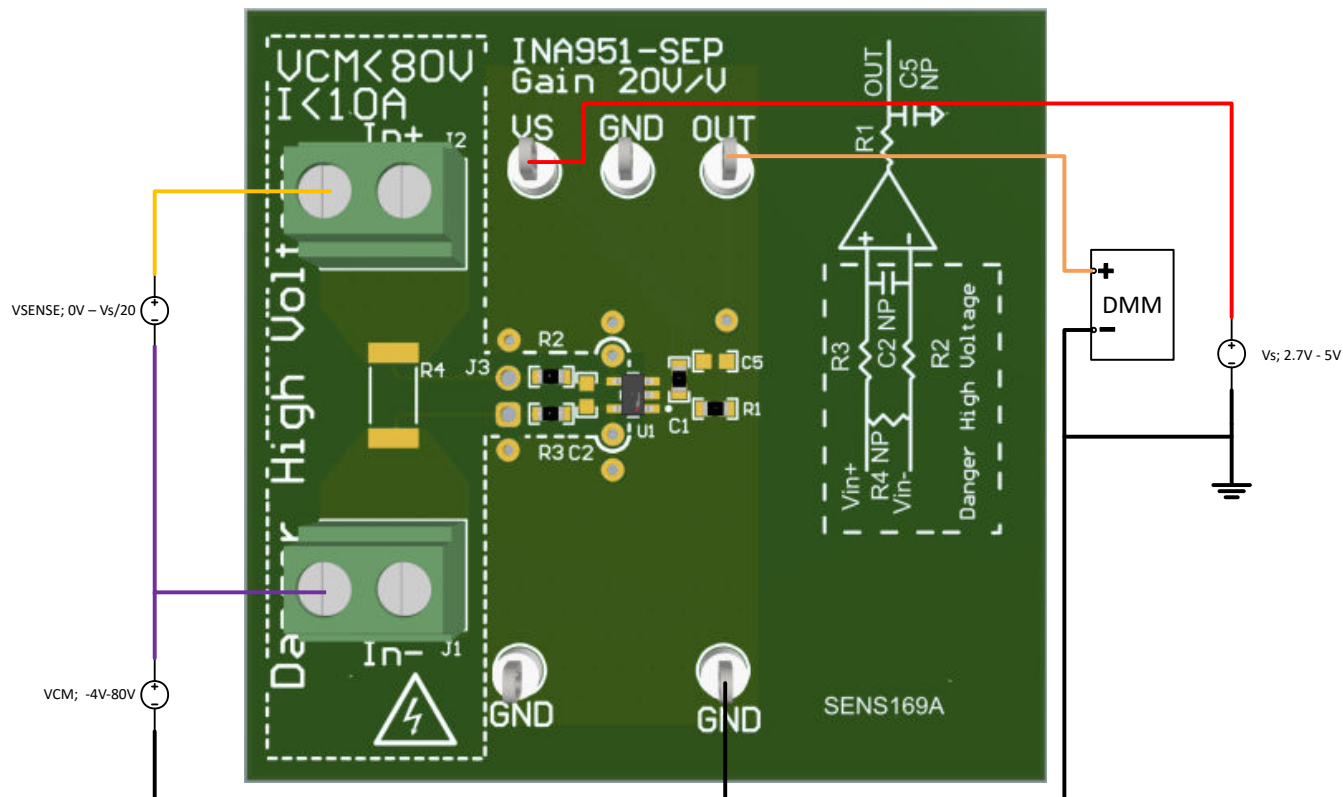

Figure 4-1. Connection Without Shunt Resistor
3. Connect a -4V to 80V common-mode voltage to the inputs given the differential voltage supply is a floating supply. Connect the positive lead of the external voltage source to the In– (J1) connector and the ground lead to a GND test point. This setup effectively moves the absolute common-mode voltage of the input pins while keeping the differential voltage the same (See Figure 4-1)